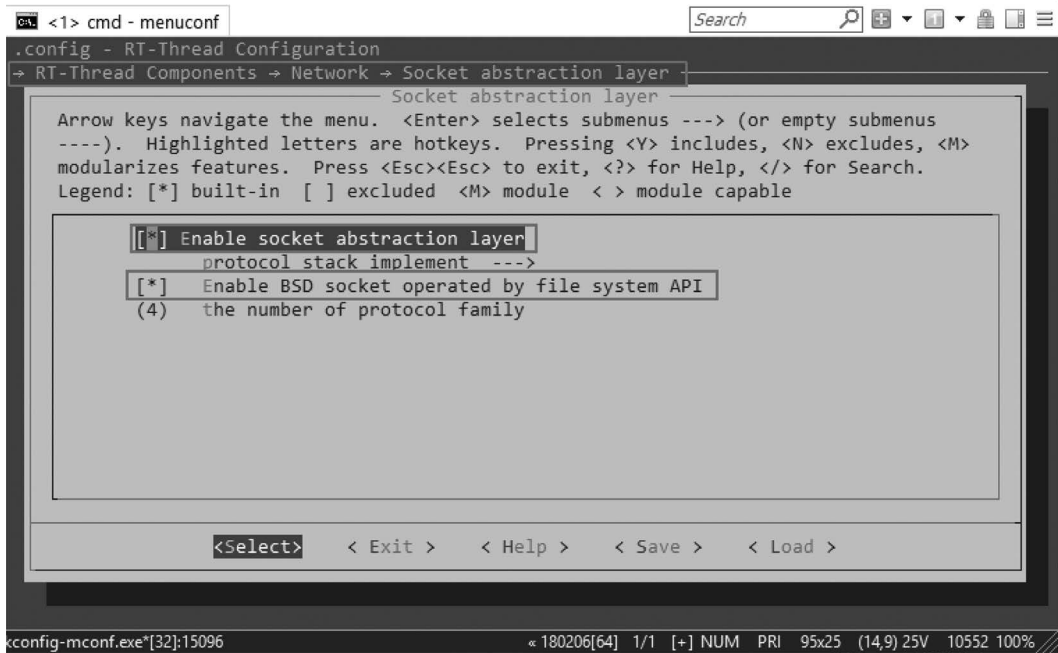

FIGURE 11.29 Network configuration 2.
2. Set the network abstraction layer, enable the socket abstraction layer, and enable the BSD socket, according to the menu directory prompt in Figure 11.29.